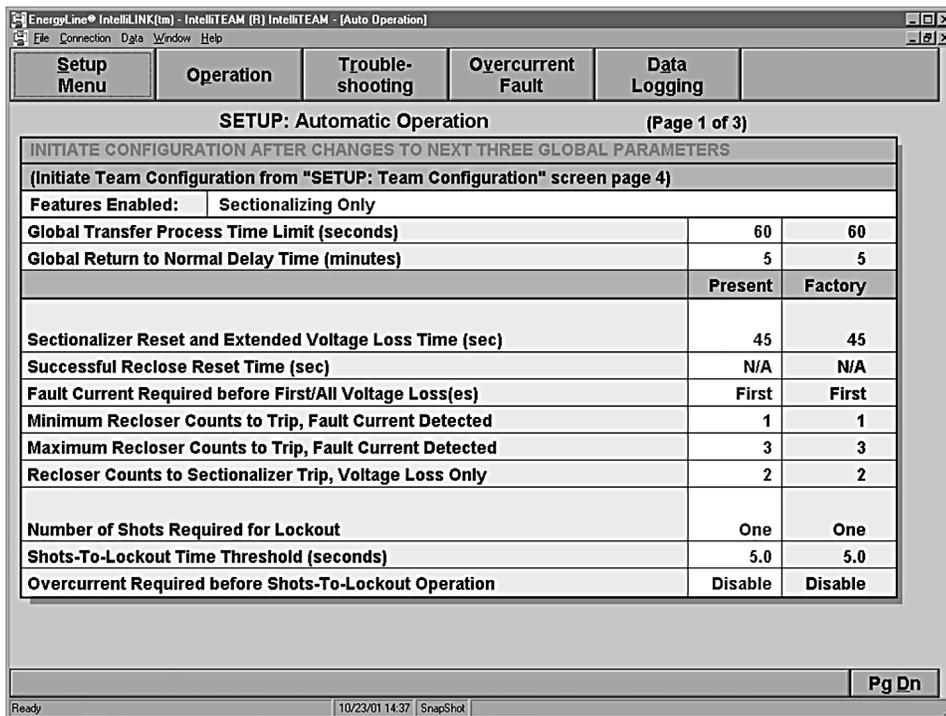

Figure 13. Page 1 of the *Setup>Automatic Operation* screen for a 5801 control.
**STEP 9.** At the *Setup Menu* screen, click on the **Automatic Operation** button to display Page 1 of the *Setup>Automatic Operation* screen. See Figure 13.
The screen shown in Figure 13 on page 27 includes the following fields: